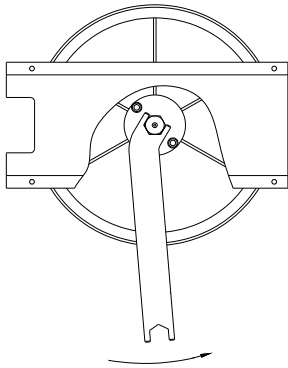

Fig 1
7.4.2 Insert the spanner tool in the gap beneath the plastic cover; use the spanner to grip the adjusting nut (Fig 1). Turn the nut counter clockwise as the figure below (Fig 2). This will tighten the sealing plate.